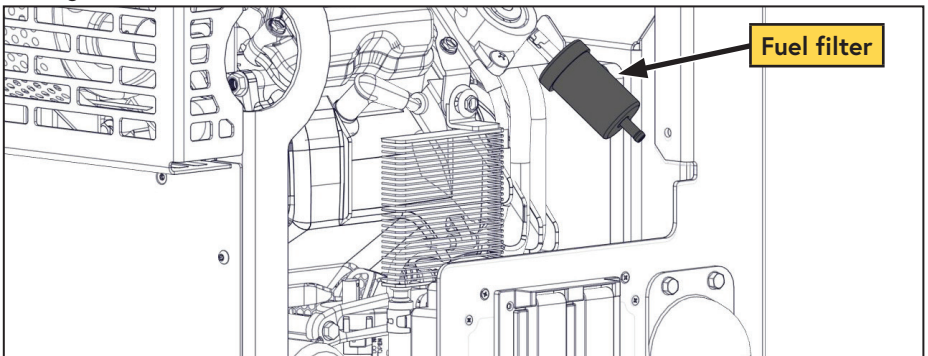

Figure 40 — Fuel filter
- ☐ Place appropriate absorbent material under the fuel filter to collect fuel spills (Figure 40).